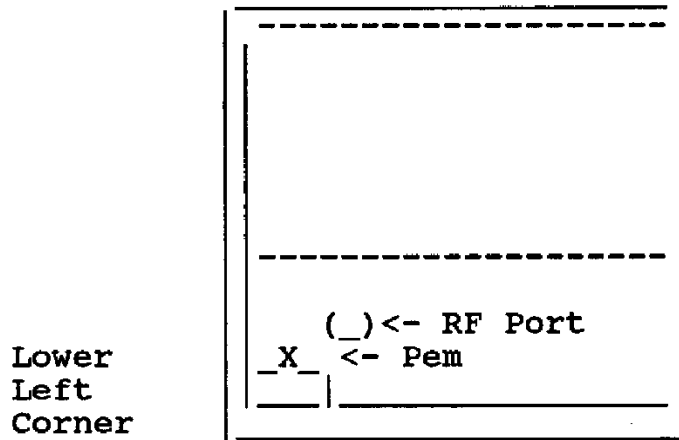

Figure 1
- Remove the pem (pressed in nut) from front panel next to the RF connector (see figure 1). This nut is a pressed in part. To remove the pem drive it out by putting a screw into the pem from the bottom side and a socket on the other side for support while driving it out. Take care in removing the pem, if the frame is broken a new front frame will need to be installed.